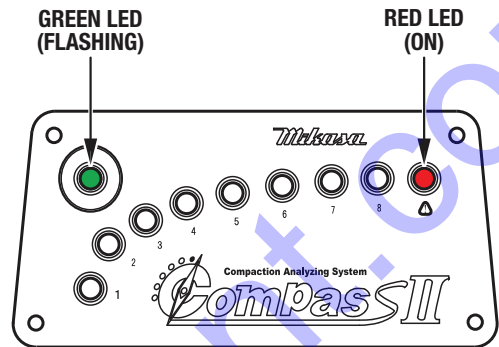

Figure 46. Sensor Panel Display (IDLE)
- When the plate compactor is started in **IDLE** mode, the green LED on the sensor panel (P/N 467310010 [MVH308DZ], P/N 468310010 [MVH408DZ], or P/N 469310010 [MVH508DZ]) will flash, and the red LED will turn on. See Figure 46.